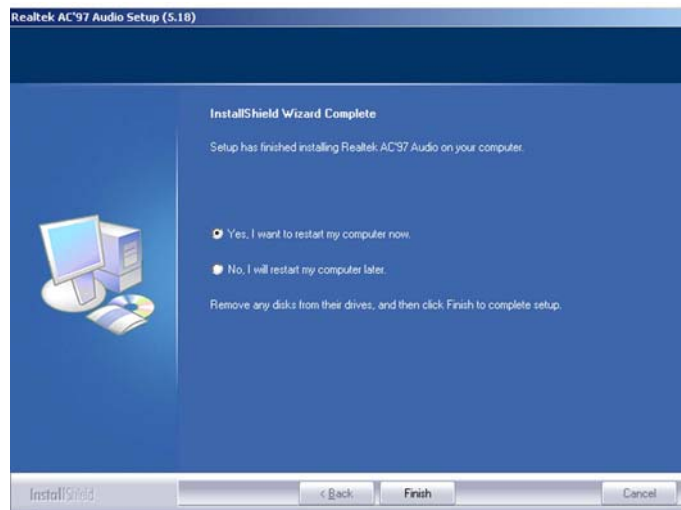

Figure 7-33: AC`97 Audio Driver Installation Complete
Step 9: After the driver installation process is complete, a confirmation screen shown in **Figure 7-33** appears.
Step 10: The confirmation screen shown in **Figure 7-33** allows you to restart the computer immediately after the installation is complete or to restart the computer later. For the settings to take effect the computer must be restarted. Once you have decided when to restart the computer, click the **"FINISH"** button.